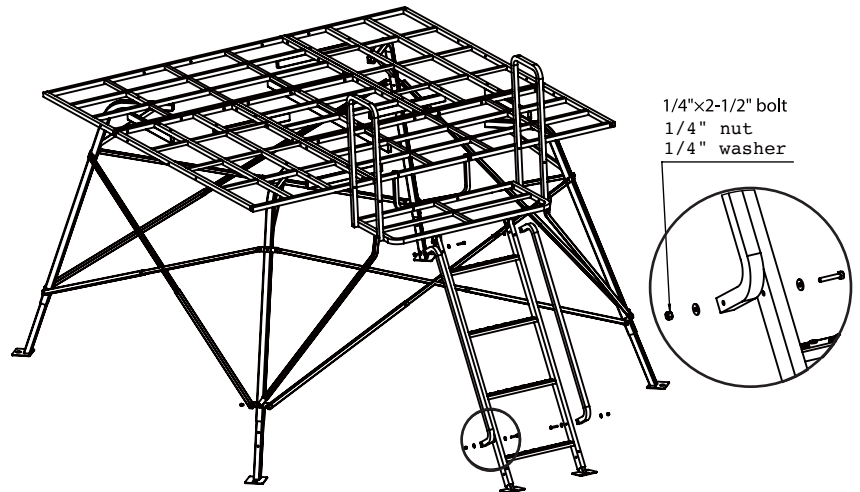

FIGURE 14
Attach the two **LADDER HANDRAILS (#17)** by using (4) 1/4"-20 x 2-1/2" bolts, (4) 1/4" lock nuts and (8) 1/4" flat washers (Figure 14). **Be sure to not over tighten.**